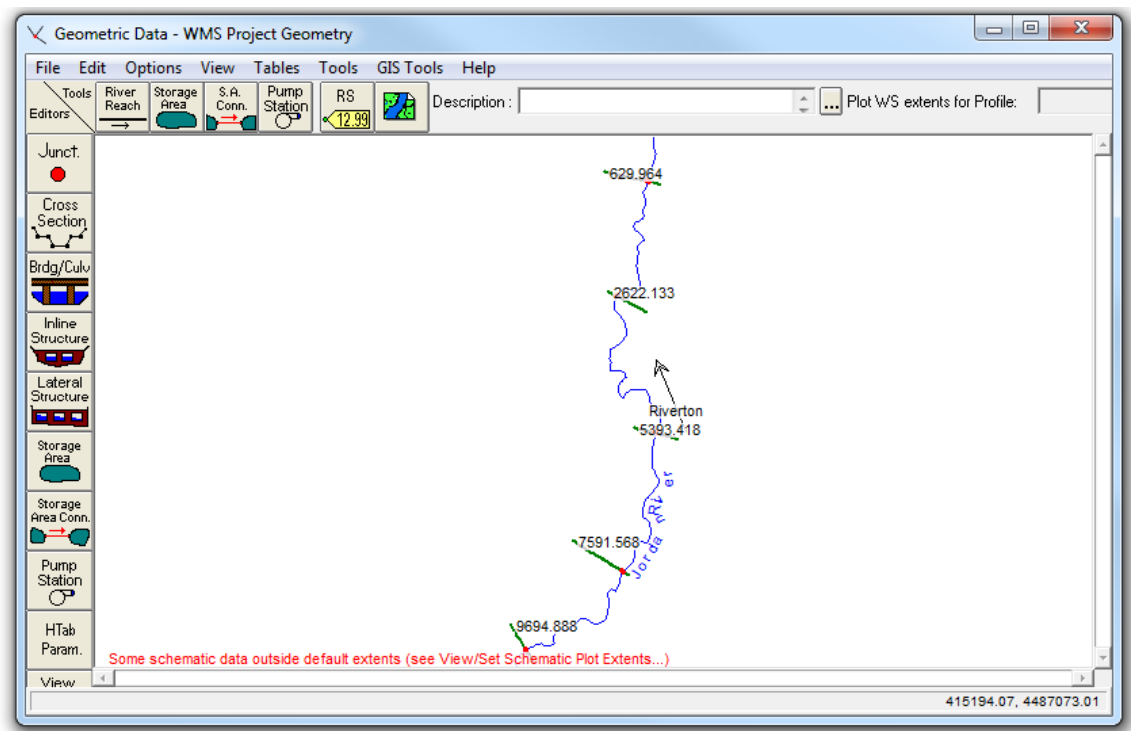

Figure 6 Geometric data imported from WMS
9. The display should look similar to that shown in Figure 6 (If users do not have the most recent version of HEC-RAS they may receive a plot extents error message. This can be corrected by selecting *View / Set Schematic Plot Extents* and selecting the **Set to Computed Extents** button).